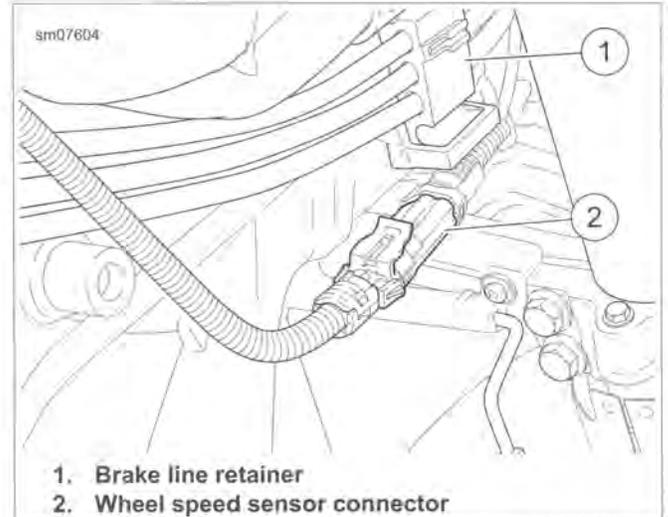

Figure 2-55. Steering Head Caddy (right side shown)
9. See Figure 2-55. Release brake line retainer block from right steering head caddy. Remove line from retainer block.
7. See Figure 2-55. Secure brake line in anchor block (1). Secure anchor block to right side steering head caddy.
9. See Figure 2-55. Release brake line retainer block (1) from right steering head caddy. Remove line from retainer block.
- See Figure 2-55. Secure brake line in retainer and secure retainer to right side steering head caddy.